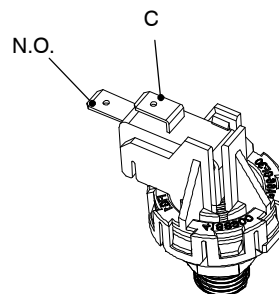

Fig. 12.2
- 1 Measure the electrical resistance between the tabs marked C. and N.O. (Fig. 12.2). The contact must close (resistance zero) with c.h. pressure of 0,35 bar or higher.